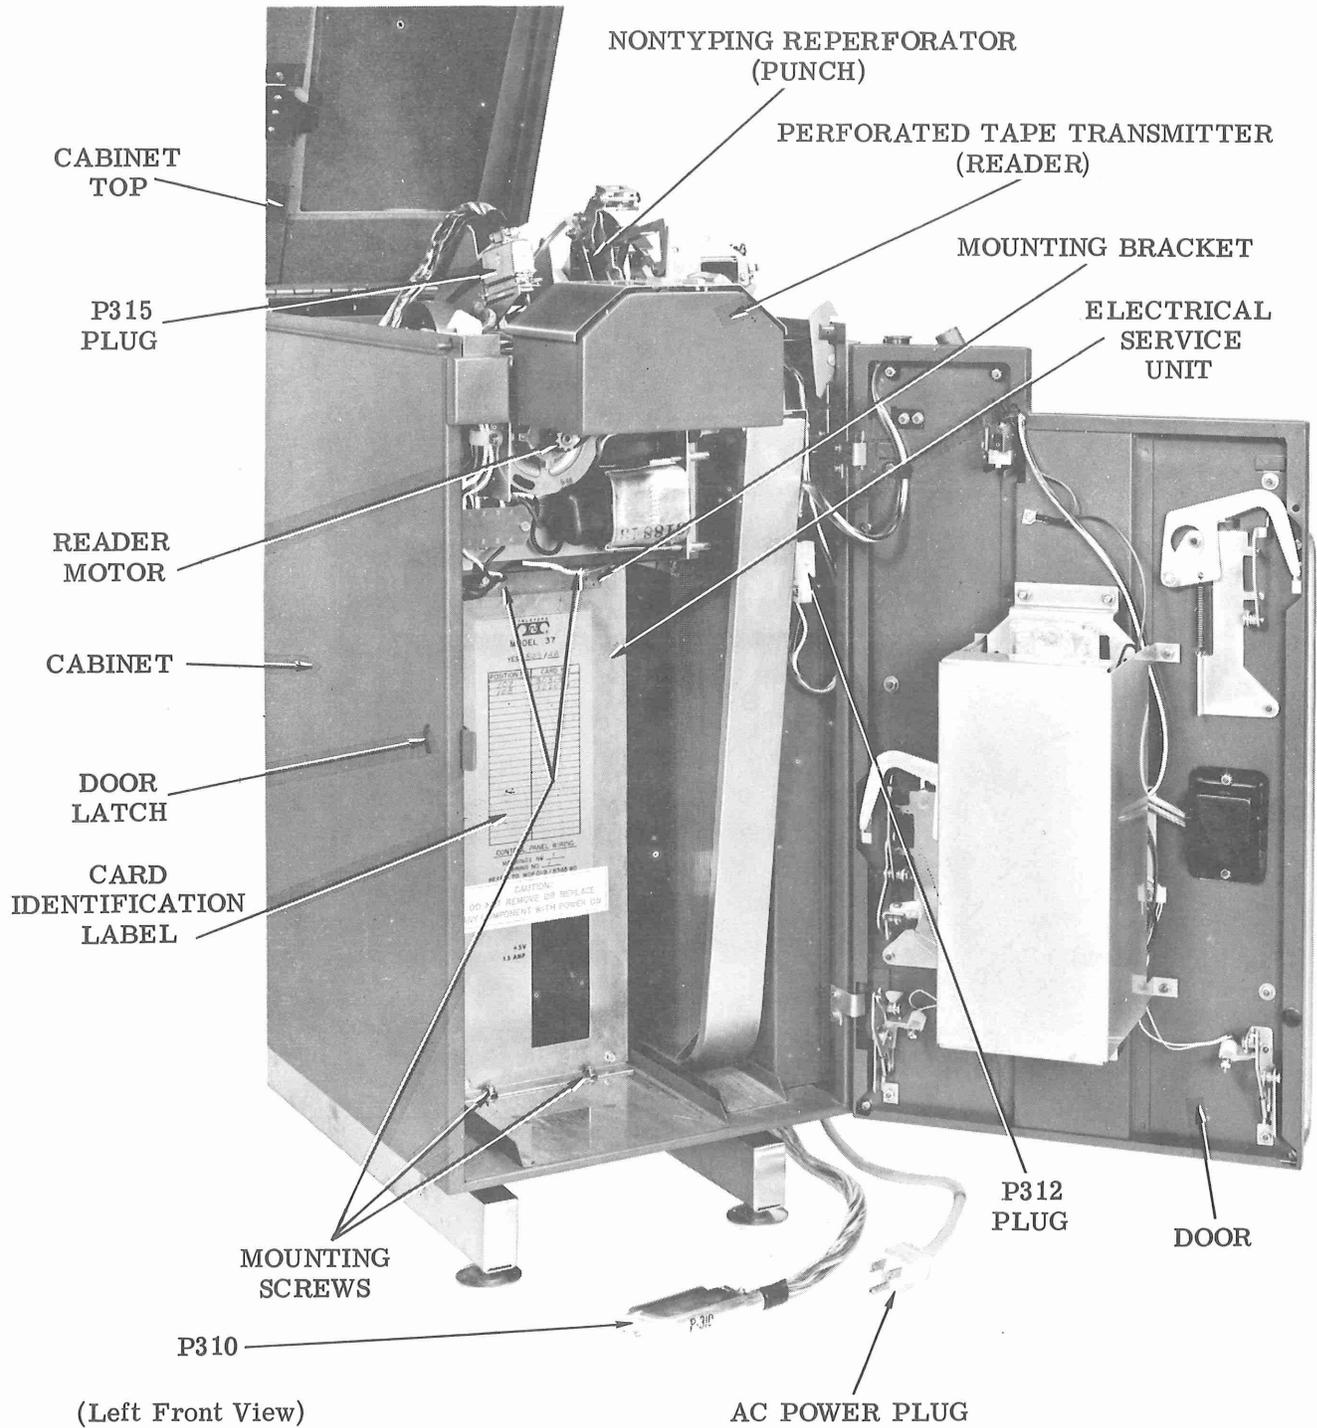

Figure 7 - Tape Module Electrical Service Unit and Other Components
2.06 To verify that the proper circuit cards are installed into the tape module electrical service unit in the correct locations, the electrical service unit should be removed from the tape module cabinet (Figure 7). Remove as follows.
- (1) Open the cabinet door by depressing door latch (Figure 7).
- (2) Remove one (late design) or two (early design) mounting screws which secure the top front of the electrical service unit to the cabinet.
- (3) Loosen two screws which secure a mounting bracket to the top front of the electrical service unit (Figure 7). This will enable the mounting bracket to drop.
- (4) Remove two mounting screws which secure the bottom front of the electrical service unit to the cabinet (Figure 7).